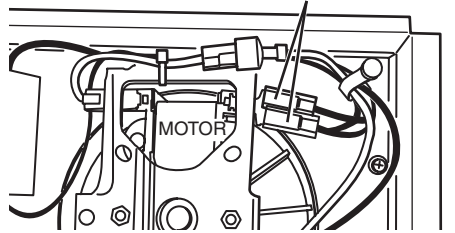

FIG. 5 - 120VAC TO 240VAC CONVERSION
2. 120 VAC to 240 VAC Conversion (FIGS. 5 & 6)